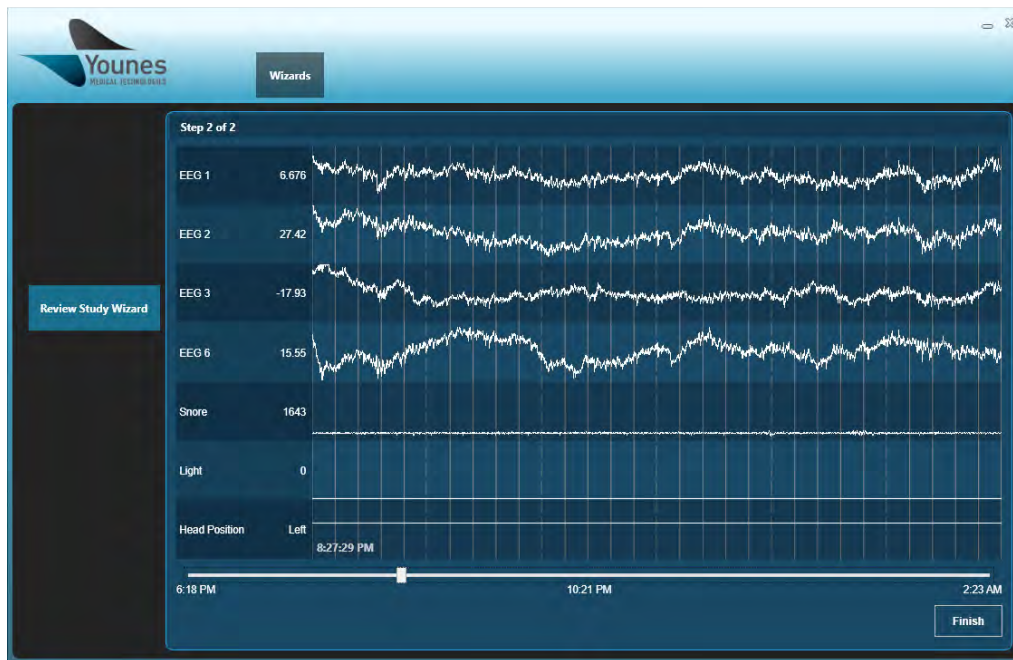

Figure 94 – Windows PC Prodigy Application Study Data Screen (Review Study Wizard).
5. The study will appear as shown in Figure 94. You can progress through the study by either using the mouse wheel or the scroll bar located below the study data.